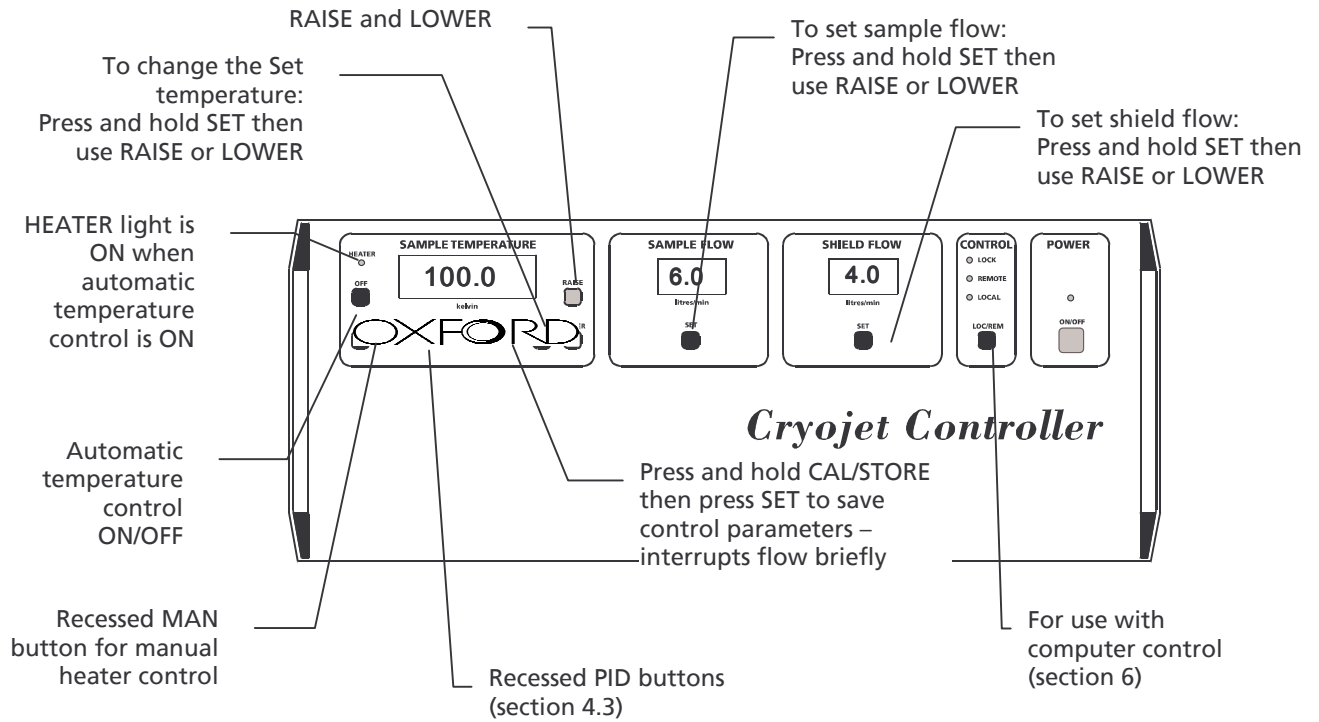

Figure 6 Cryojet Controller front panel
- A view of the front panel is given in Figure 6 together with the main functions. Full details are in the Cryojet Controller Technical Handbook, included together with this manual.